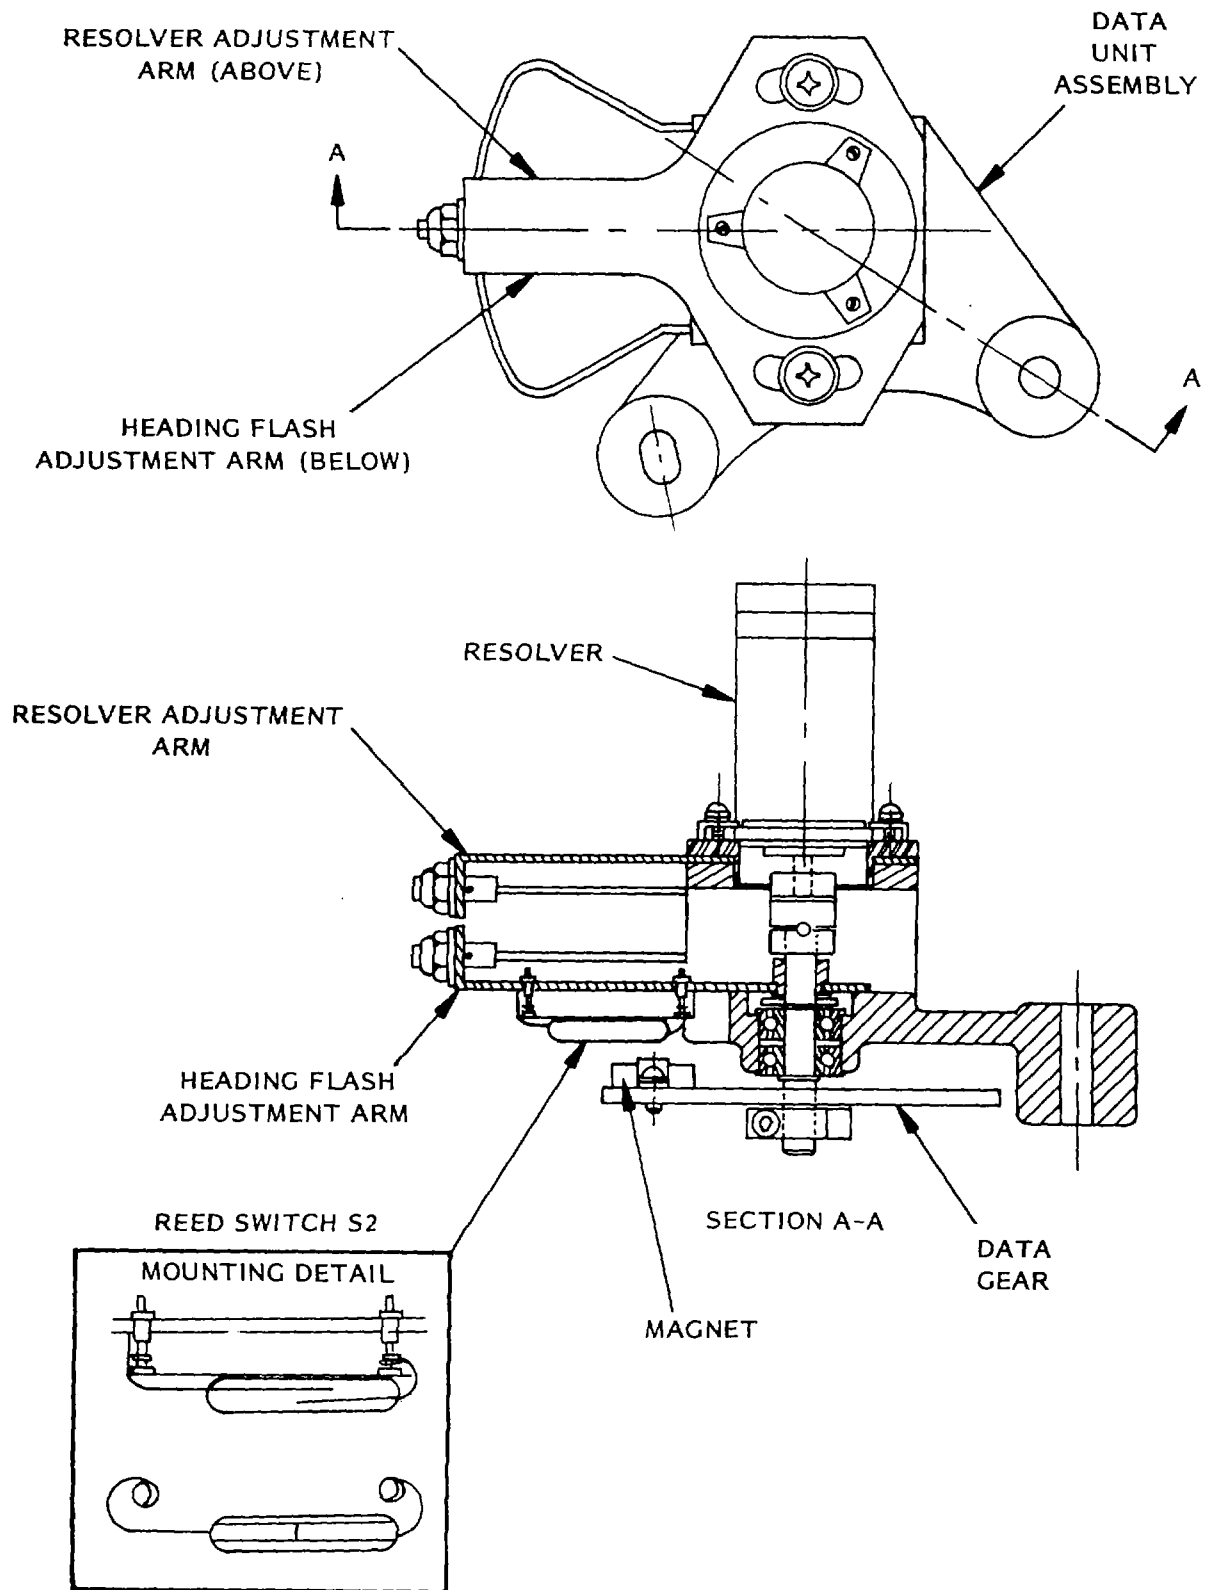

Figure 5-6 Reed Switch and Magnet Assemblies Location
9. Rotate the glass envelope of the new reed switch to orient the reeds as shown in the detail of Figure 5-6. Maintaining proper reed orientation, position the switch as noted in step 7.